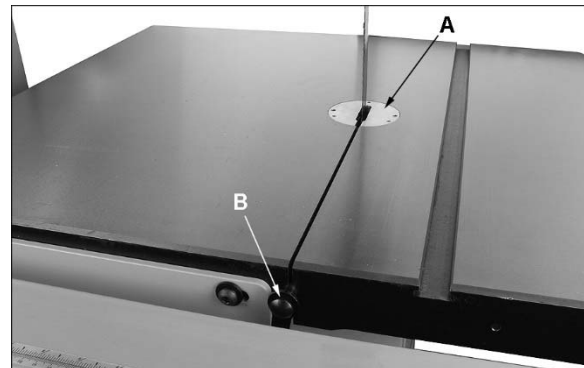

Figure 22: blade removal
Refer to Figures 22 and 23.
2. Remove table insert (A, Figure 22).
3. Pull out table pin (B) at end of slot.